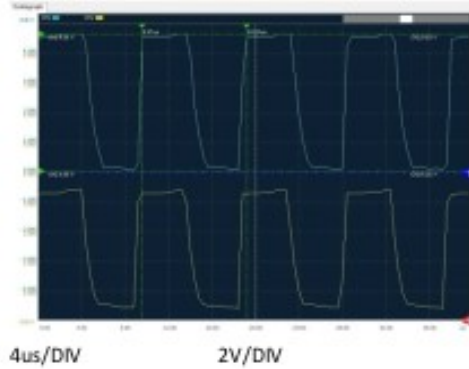

Fig D4
- (a) Check data lines ULA pins 19 (24) and compare to fig D3. If the waveform is very unstable in X axis, a mechanical fault is probable. If the waveform is poor or is not present at all check the pk-pk signal at pins 4 and 5 (14 and 15). See fig D4.